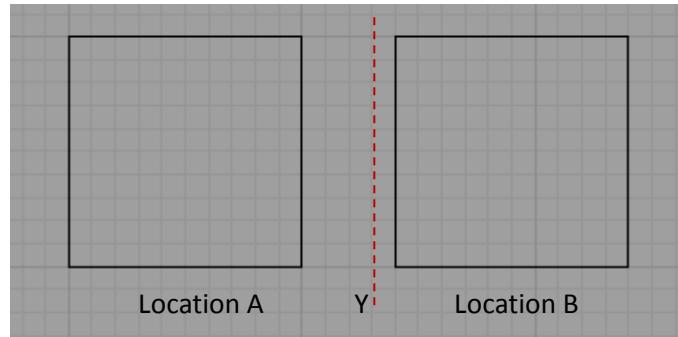

Figure 22. Mirroring an object.
- d. Select the object that needs to be duplicated (rectangle in Location A of Figure 22) and press **Enter**.